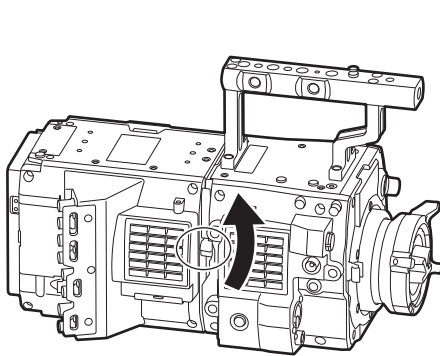
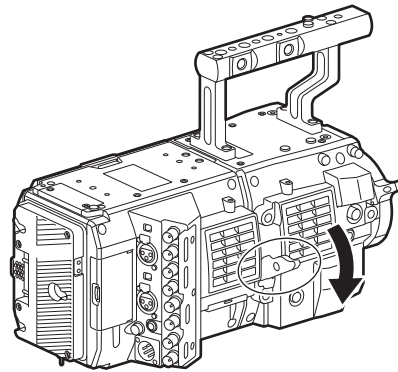

Fig. 1
Fig. 2
- 1** Push down the recording module release lever (Fig. 2) while pulling up the lock knob (red) of the recording module release lever (Fig. 1).